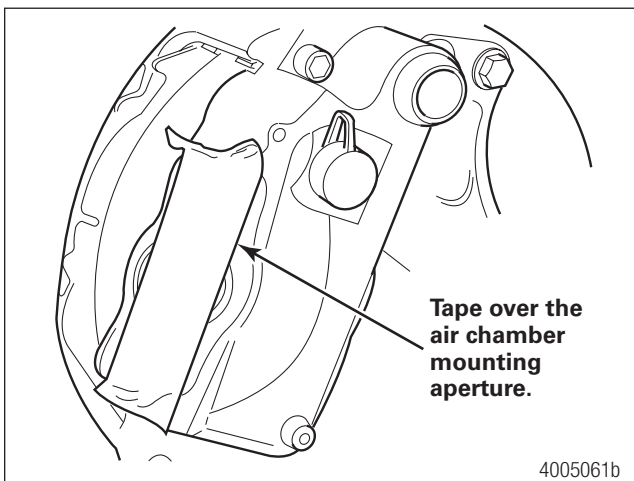

Figure 10.4 Cover the air chamber opening.
- If the chamber is removed and not replaced, cover the exposed air chamber mounting aperture with tape to prevent debris from entering the caliper housing assembly. Figure 10.4.